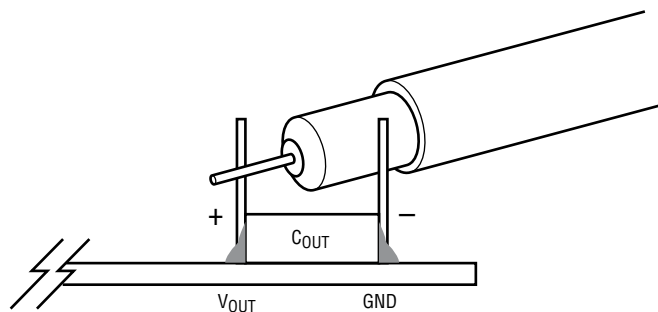

Figure 2. Scope Probe Placement for Measuring Input or Output Voltage Ripples
5. Once the input and output voltages are properly established, adjusting the input voltage between 2.7V to 17V and the load current within the operating range of 0A to 1.25A max per channel. Observe the output voltage regulation, output voltage ripples, switching node waveform, load transient response and other parameters. Refer to Figure 2 for proper output voltage ripple measurement. Note 1: To measure the input/output voltage ripples properly, do not use the long ground lead on the oscilloscope probe. See Figure 2 for the